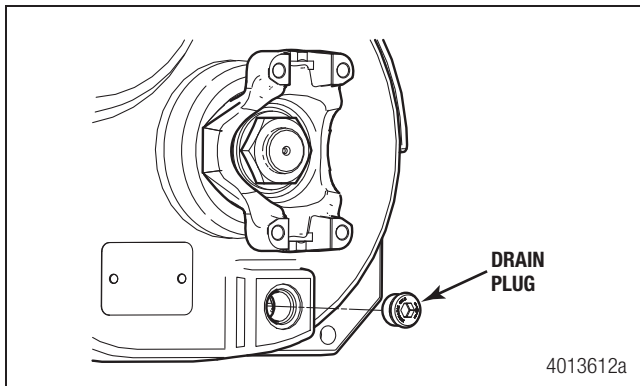

Figure 11.1
2. Using a 10 mm Allen-head wrench, remove the magnetic drain plug from the front transfer case cover and completely drain the oil. Figure 11.1.